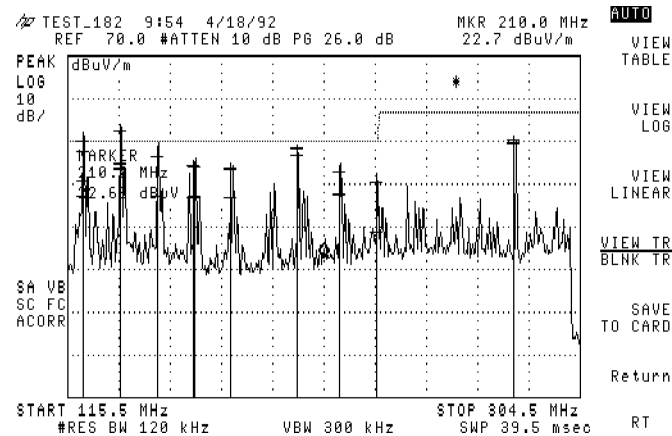

Figure 3-46. Viewing the Linear Data and Max-Held Trace
20. Press **VIEW TRACE** to review the linear data and the captured max-held trace. The top cross mark represents the quasi-peak value. The lower cross mark represents the average value (if all three detection modes were selected). See Figure 3-46.